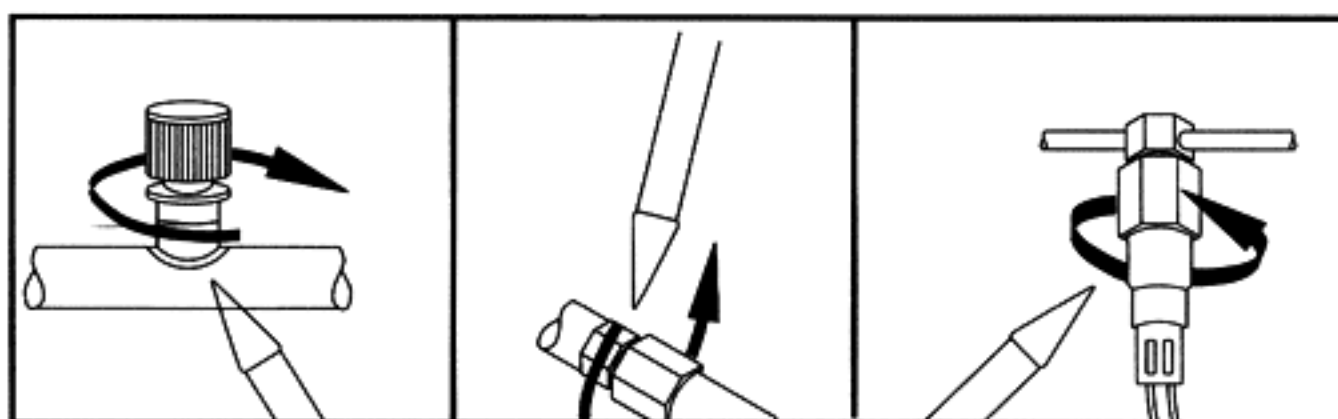

Fig. 3
5. At each area checked, the probe should be moved around the location, at a rate no more than 25 to 50 mm/second (1-2 in/second), and no more than 5 mm (1/4 in) from the surface, completely around the position. Slower and closer movement of the probe greatly improves the likelihood of finding a leak (see Fig. 3, below). Any increase in beep rate is indicative of a leak.